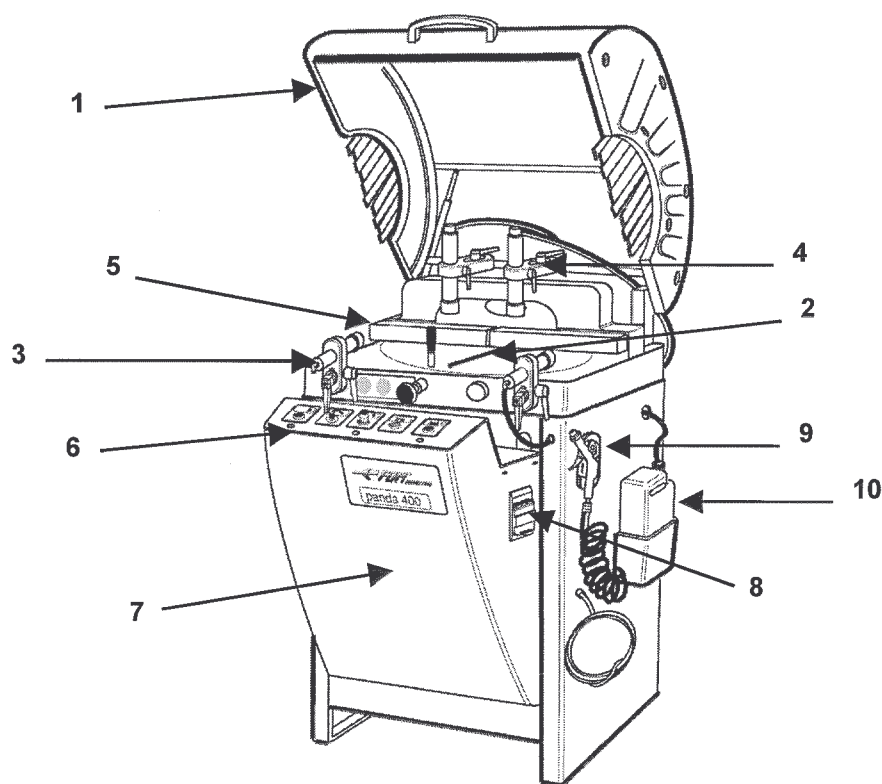

Fig. 03-01
3.3 COMPONENTI MACCHINA IN VERSIONE BASE (Fig. 03-01)